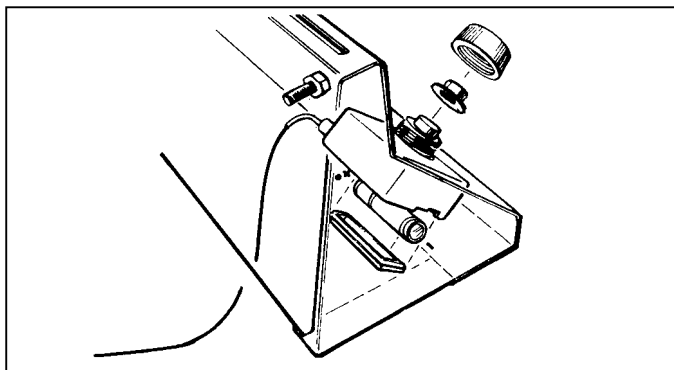

Figure 8 Ignition Module Assembly
9. Remove "Sure Start" Ignitor module from the underside of control panel by unscrewing black ring. Remove rear cover of module and insert a fresh AA alkaline battery into unit (included). Plug the end of the ignitor wire lead to the electronic ignitor module. NOTE: On the K-40, the wire is fed through the lower casting and connects to the electrode lead, which is attached to the burner. On the K-30, the wire attaches below the casting onto the electrode lead. Reinstall the black cover and insert the module back into the control panel (see Fig. 8). Be certain to put the red protective moisture cap on the button and secure the black plastic ring.